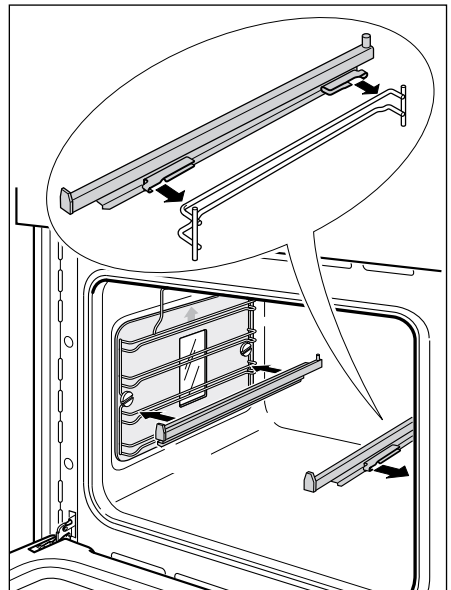

Fig.20 Refitting the sliding shelf supports
- 2 Fit the sliding shelf support onto the top wire of a rack and press (Fig. 20). You will hear a click as the safety locks clip over the wire.
- *The slides so that they run out towards the oven door, as shown in Fig. 20*